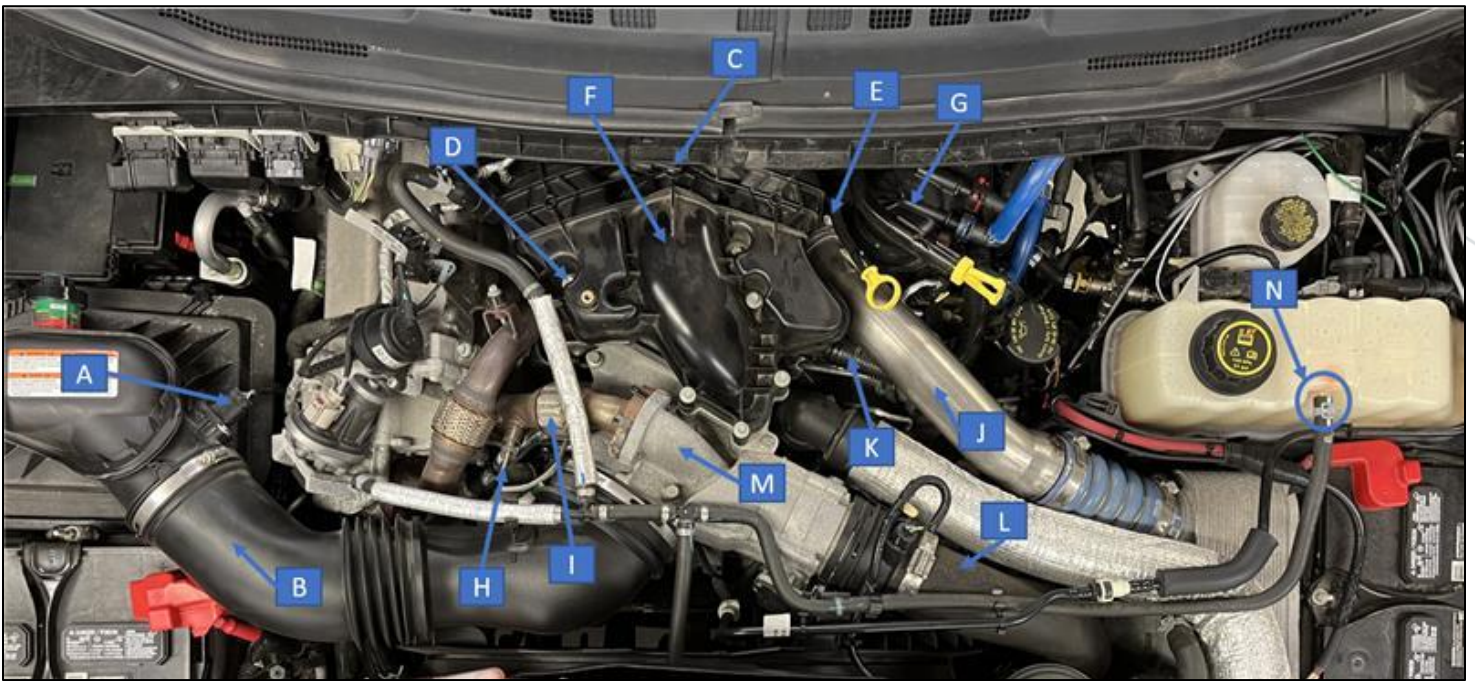

Figure 8: Engine Component Diagram (MY 2017-2019 shown)
2. Referring to Figure 8 above, remove the air filter intake pipe (Labeled as B).
8. Remove the hot side intercooler pipe (Turbo to intercooler pipe) (Labeled as J in Figure 8).